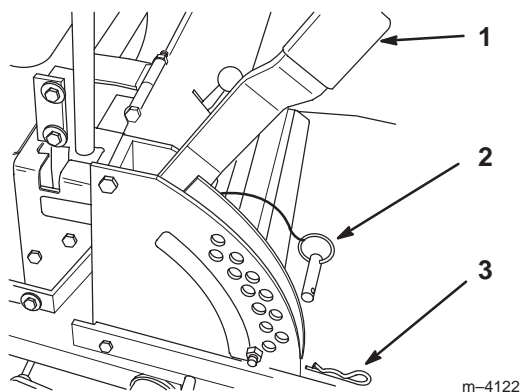

Figure 21
1. Raise the height-of-cut lever to the transport position (also the 4-1/2 inch (114 mm) cutting height position) (Fig. 21).
2. To adjust, remove hairpin cotter and clevis pin from height-of-cut bracket (Fig. 21).
3. Select hole in height-of-cut bracket corresponding to the height-of-cut desired, and insert clevis pin (Fig. 21).
4. Secure clevis pin with hairpin cotter (Fig. 21).